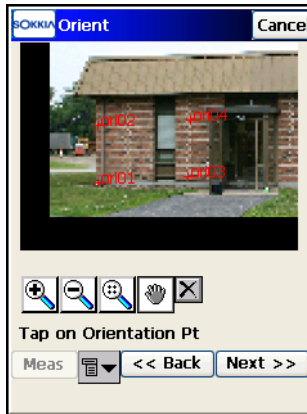

Figure 8-62. Calculate Image Orientation
- When four or more orientation points have been established, tap the **Next** button on the *Orient* screen (Figure 8-62 on page 8-55) to display the orientation results.